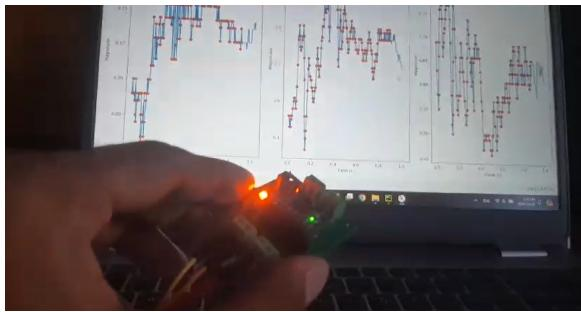

Figure 3.4
Figures 3.4, 3.5, 3.6, and 3.7 show how the system is picking up movements of hand (mimicking vibrations), and plotting them in the computer screen with anomalies in red.
- Figure 3.4 - Sensor picking up and plotting random movements of hand.